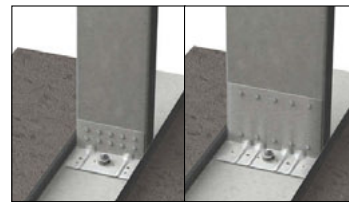

Figure 3 Kwik-Bolts
- A "%" in the shear column indicates that the shear capacity is limited to 1970 lbs when using 1/2" x 2-1/4" Hilti Kwik-Bolts to 3000 psi concrete as shown in Figure 3.